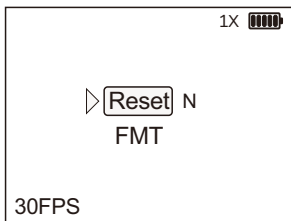

Fig 18
a. From the Set menu, press the  button to enter Reset. Press the  and  buttons to select N or Y. Selecting Y (Yes) will restore factory settings of the DRS-NV. To exit, press and hold the  button to return to the previous menu. Restore factory settings does not change the settings under the Cal menu. (See in Figure 18)